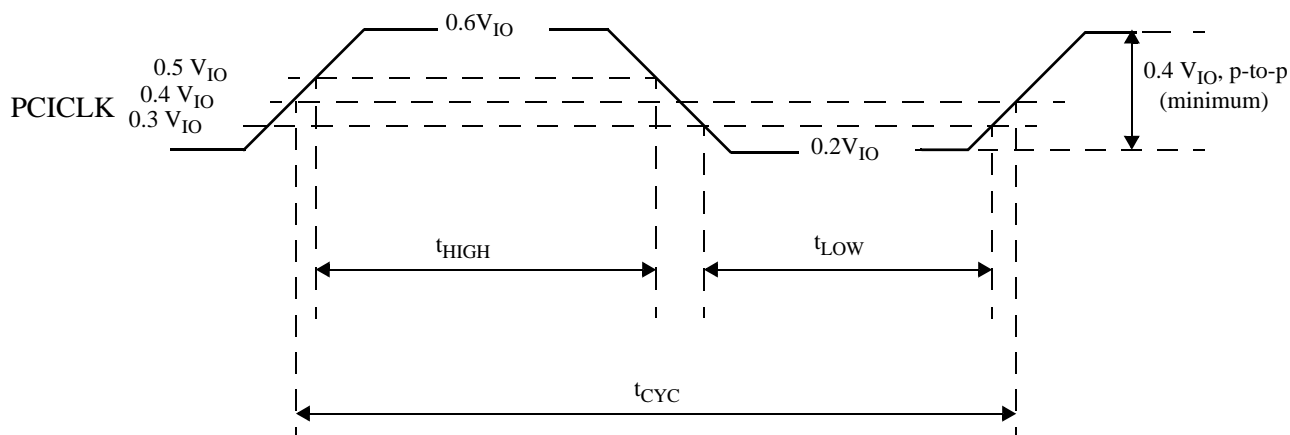

Figure 7-12 PCICLK Timing and Measurement Points
3. Slew rate must be met across the minimum peak-to-peak portion of the clock waveform (see Figure 7-12).
4. The minimum \overline{PCIRST} slew rate applies only to the rising (deassertion) edge of the reset signal. See Figure 7-12 for \overline{PCIRST} timing.